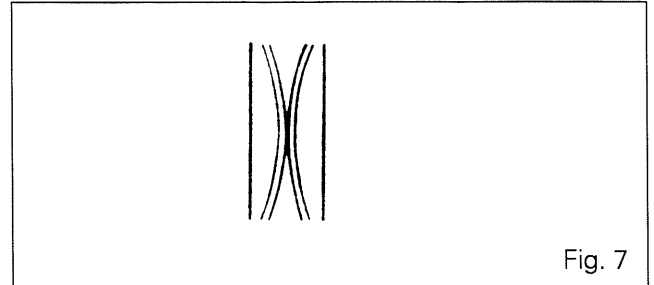
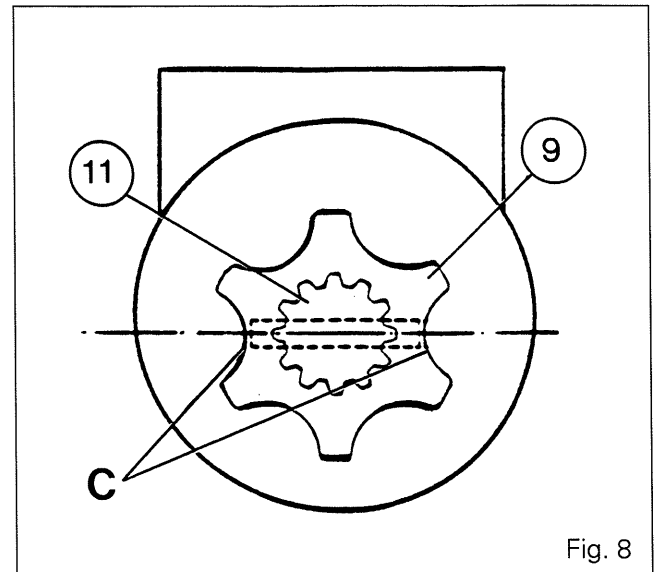
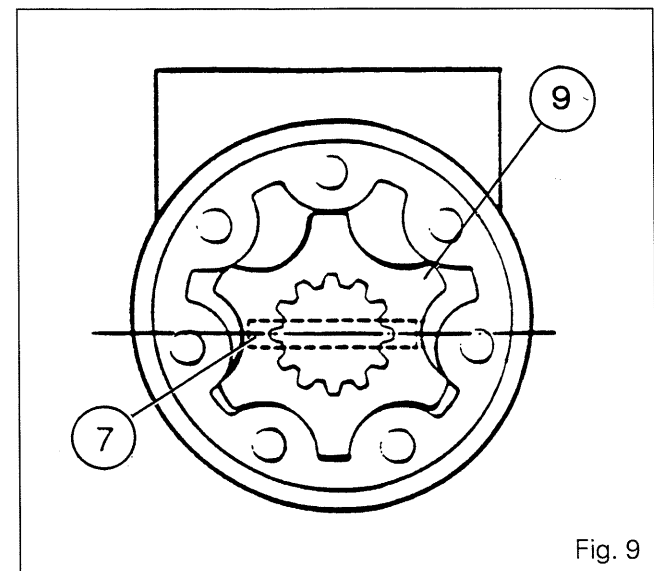

Fig. 7
Fig. 8
Fig. 9
16. Refit the check valve (26).
17. Fit seal (19), O-ring (17) and bush (15).
18. Place the balls and springs in the recesses for the shock valves (20). Screw in the threaded bushes, position the seals and tighten the caps.
19. Place the valve and spring in the recess for the relief valve (18) and screw in the threaded bush. Position the seal and tighten the cap to a torque of 40 to 60 Nm.
20. Insert the spool valve (25) in the sleeve (27). Position the centring springs (13) as shown in Figure 7 and fit the pin (7).
21. Position the ring (24) on the sleeve and spool valve assembly so that the chamfer facilitates assembly in the distribution valve.
22. Fit washers (12) and (16) with the chamfer on washer (12) directed towards the centring springs (13) and with the needle-roller bearing (14) positioned between them.
23. Fit the sleeve and spool valve assembly in the distribution valve, applying a slight oscillating movement. Check that the pin (7) is held horizontally.
24. Place the two balls and the two pins in the recesses for the suction valves (23).
25. Place the ball in the recess for the non-return valve (22) and screw in the threaded bush.
26. Position the splined link shaft (11).
27. Fit O-ring (28) and the distributor plate (29).
28. Fit the rotor (9) so that the two hollows «C» are in line with the slot in the splined shaft (11) (Fig. 8). Refit the spacer (10).
29. Place O-rings (5) and (8) on the stator (6).
30. Taking care not to move the rotor (9), fit the stator (6). Then move the stator so that its attachment holes coincide with those of the distribution valve.
**Note: The rotor (9) and pin (7) must be in the position shown in Figure 9.**
31. Refit the cover plate (4).
32. Refit bolt (2) (in the position marked during disassembly) and bolts (1) fitted with their seals (3). Tighten them alternately to a torque of 30 to 35 Nm.